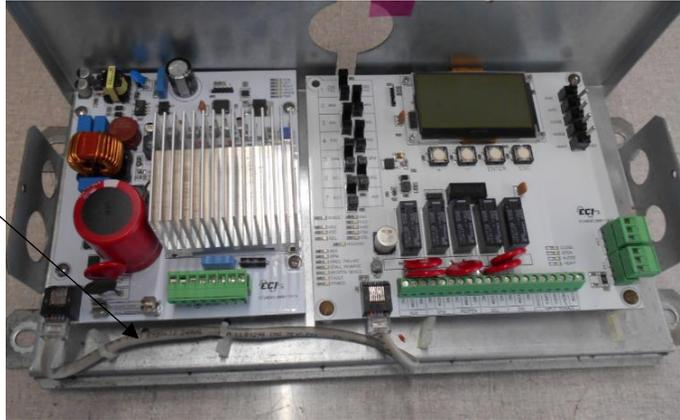

Figure 15 -ECI MOVFR LCD Installed
- Using hardware supplied with the board, mount the Control and Drive boards as shown in Figure 15 -ECI MOVFR LCD Installed. Connect communication cable (supplied with boards) between Control and Drive boards.